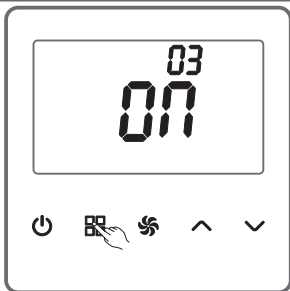

Figure 9
As shown in the Figure 9, on the parameter setting page, press  (MODE) to switch the option number to 03. **^** (UP) or **v** (DOWN) is provided to allow a switch of ON and OFF.
(4) Temperature unit setting